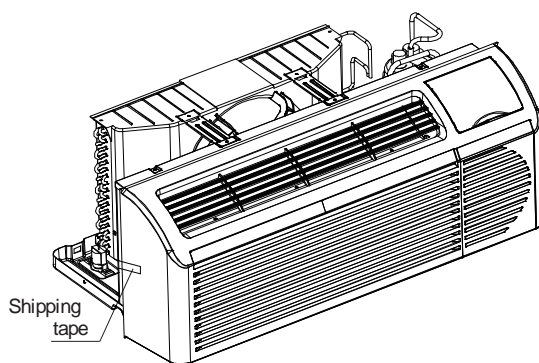

Fig.5. – Shipping Tape Location
1. Carefully remove shipping tape from the front panel and vet door. See Fig.5.